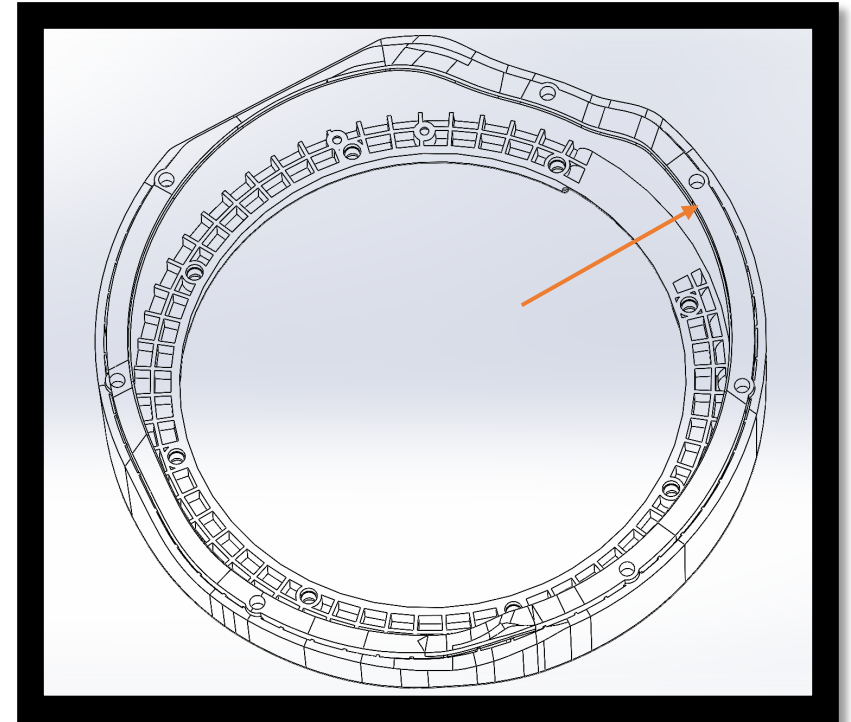

Figure 6 – 14HDRING10 Silicone Gasket
- **Step 2:** Ensure the silicone gasket is properly seated in the recess of the mounting ring. (See Figure 6) Insert into saddlebag.
- **Step 3:** Using (7) M6 x 25 mm T30 button head flange screws, insert screws through saddlebag and into the Ring10. DO NOT completely tighten at this time. Once all screws are all inserted, using an alternating pattern, tighten screws while paying attention to the fitment of mounting ring on saddlebag surface.